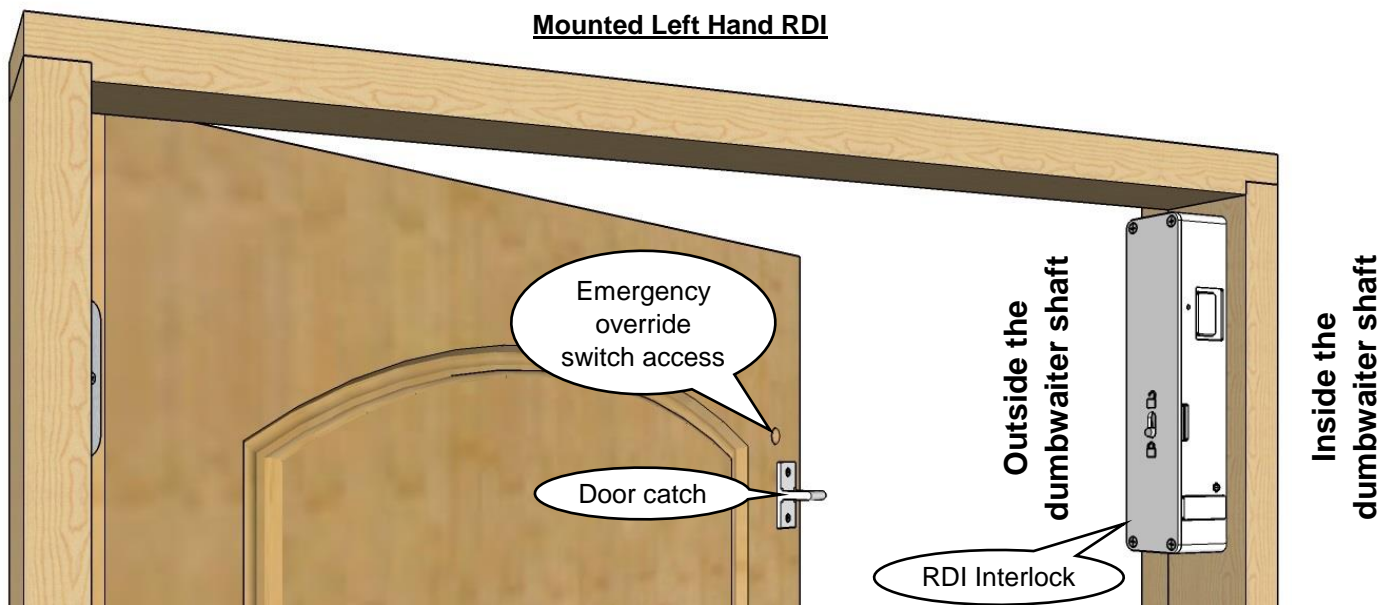

Figure 27
- 1** The RDI door interlocks must be mounted vertically and opposite the hinges. (see Page 21, Figure 27)